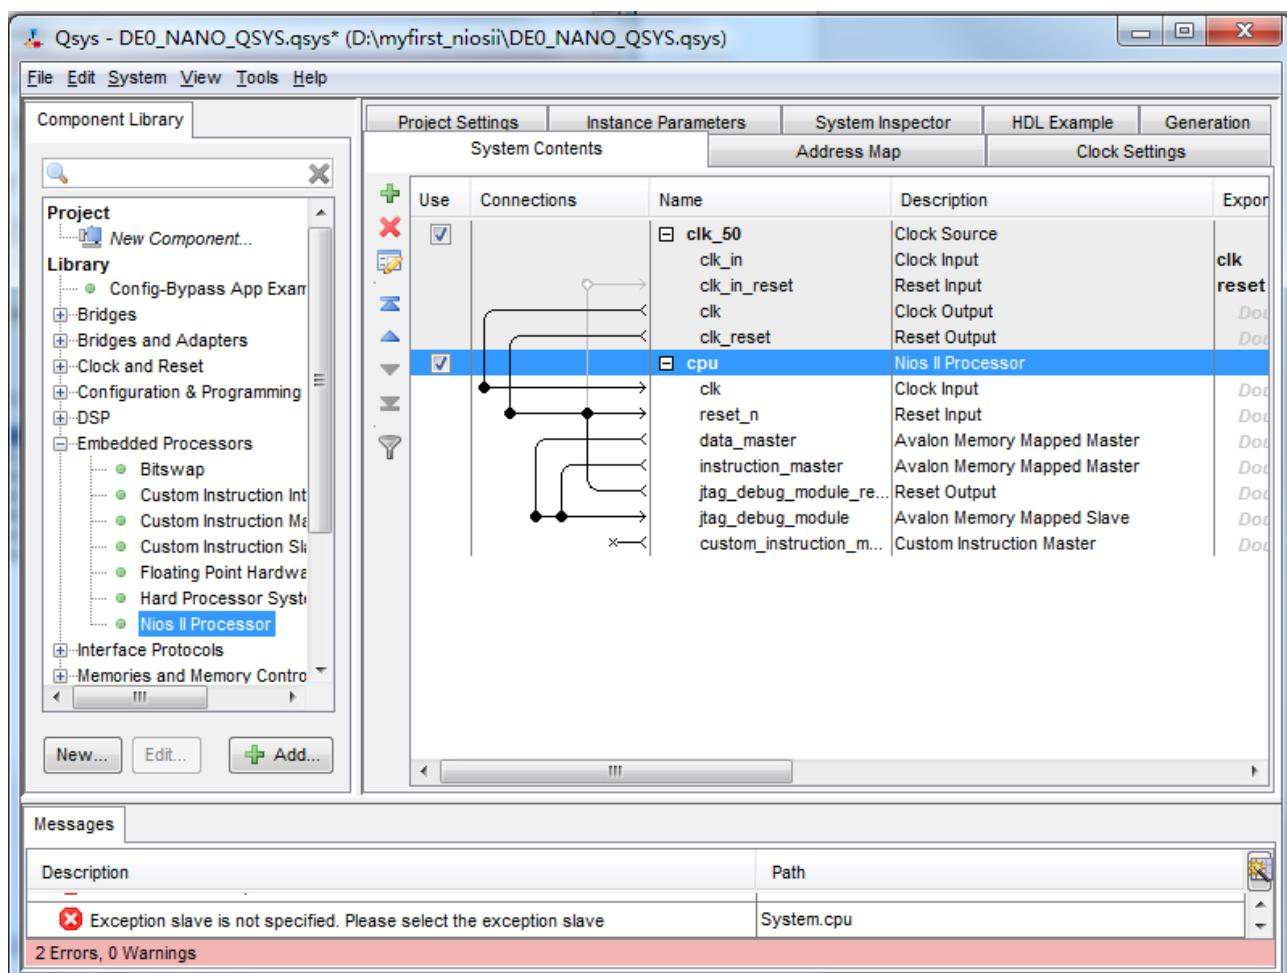

Figure 1-20 Connect the clk and clk_reset
11. Connect the clk and clk_reset as shown in **Figure 1-20**. (clicking the hollow dots on the connection line. The dots become solid indicating the ports are connected.)